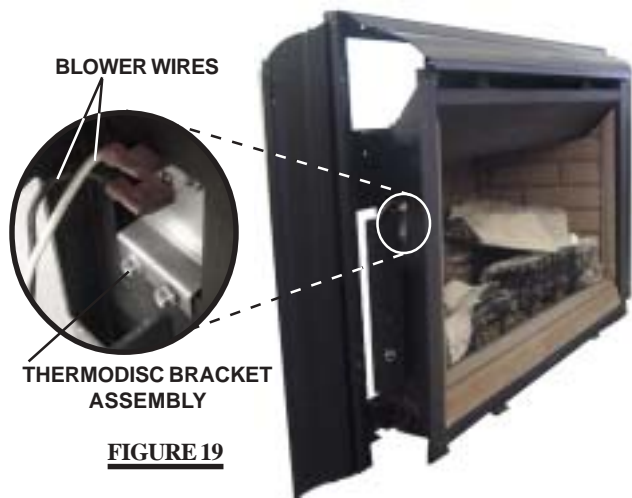

FIGURE 19
- Disconnect the two blower wires. Remove the blower bracket secured with one wing nut and lock washer. **For thermodisc replacement:** Remove the "Z" shaped mounting bracket secured to the firebox wall behind the left side control door. Remove the thermodisc from the bracket and replace. **Figure 19.**